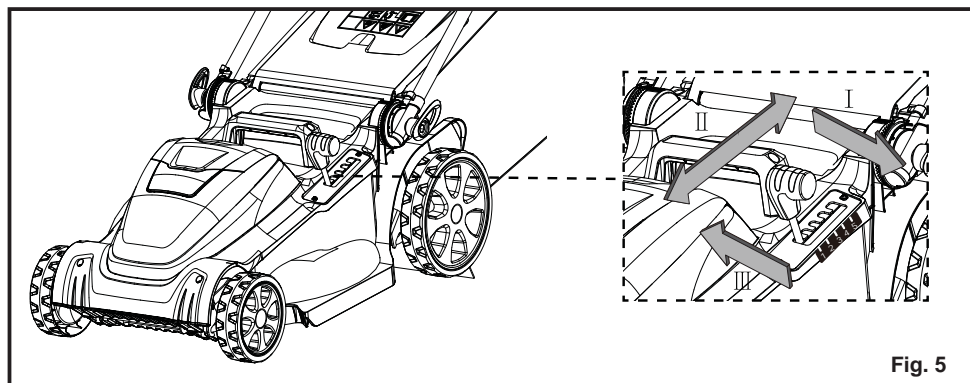

Fig. 5
1. To raise the cutting height, grasp the cutting height adjustment lever and move it toward the back of the mower (Fig. 5).
2. To lower the cutting height, grasp the cutting height adjustment lever and move it toward the front of the mower (Fig. 5).